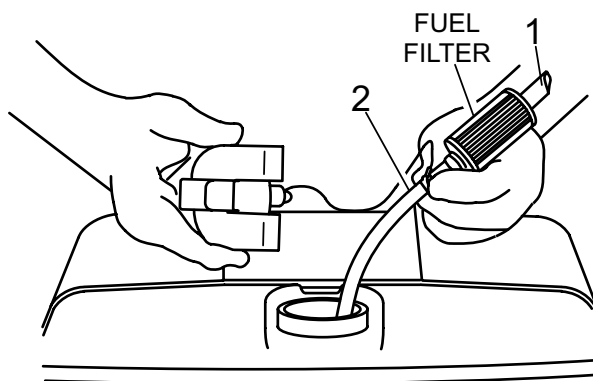

Figure 37. Fuel Filter
1. Clean the fuel filter (Figure 37) every 3 months or 200 hours.